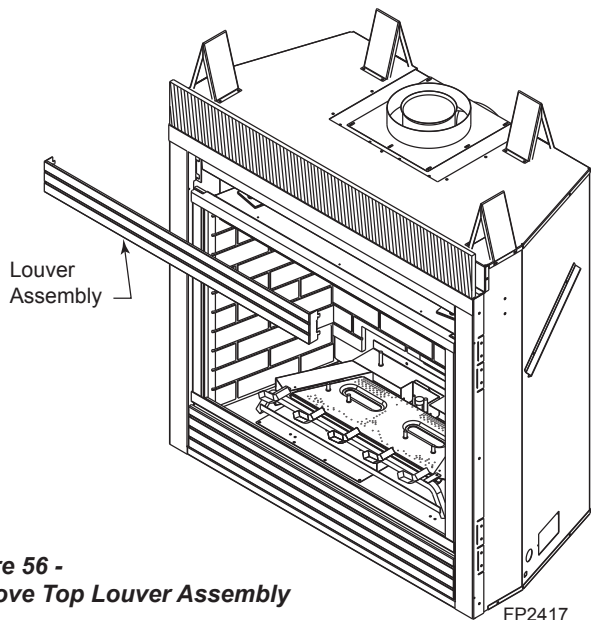

Figure 56 -
1. Unhook top louver assembly. Set aside. *Figure 56*